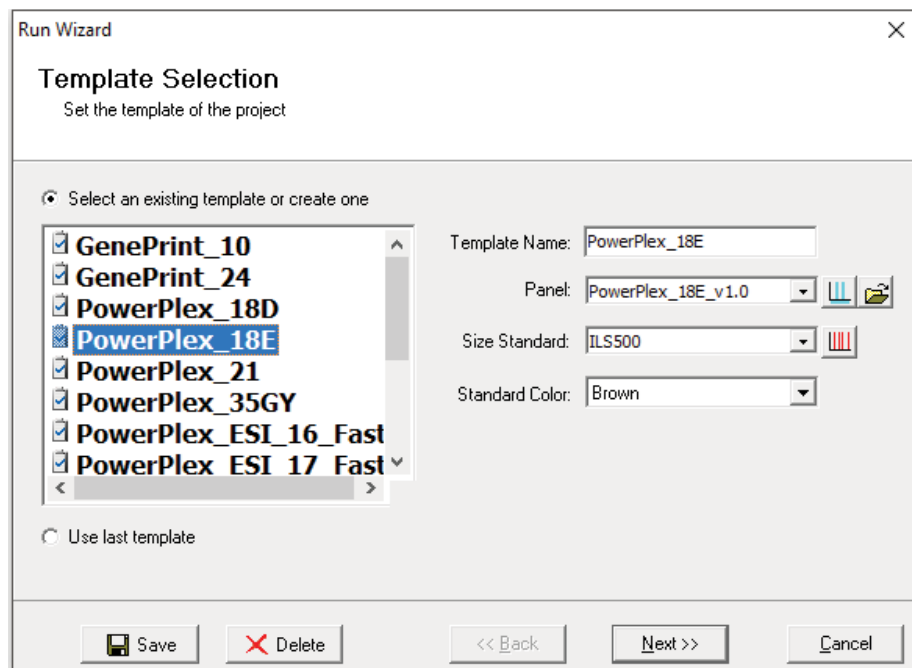

Figure 21. The 'Template Selection' window.
8. Select **Run** in the Magic Wizard or click the **Run Project** icon (green arrow) in the toolbar. The 'Template Selection' screen will appear (Figure 21). Select the PowerPlex_18E template and the settings shown in Figure 21. If the PowerPlex_18E template is not available, check the "Select an existing template or create one" box and provide a new name. Select the PowerPlex_18E panel that you created in Steps 6–8 from the panel drop-down field. The Size Standard must be ILS500 and the Standard Color must be Brown. Select **Save** to ensure this template will be stored among the other analysis run templates. Select **Next**.